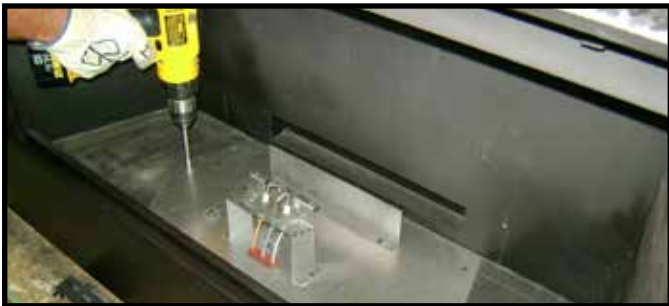

Figure 11.2. Remove Valve Plate Screws
1. Remove eleven screws around perimeter of valve plate and one on the valve bracket that secure valve plate to the firebox bottom. See Figure 11.2.
Note: There is an alternative access to the junction cord. This can be accessed by removing the valve assembly. See Figures 11.2 and 11.3.